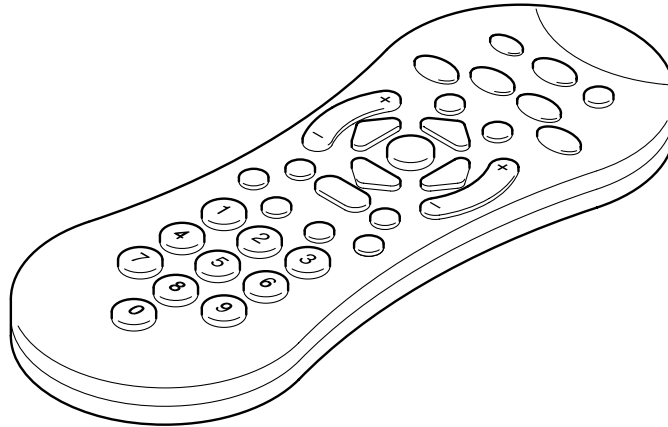

Fig. 1
- 1 (a) Identify **two** pieces of anthropometric data which would have been used in the design of the remote control shown in Fig. 1. [2]